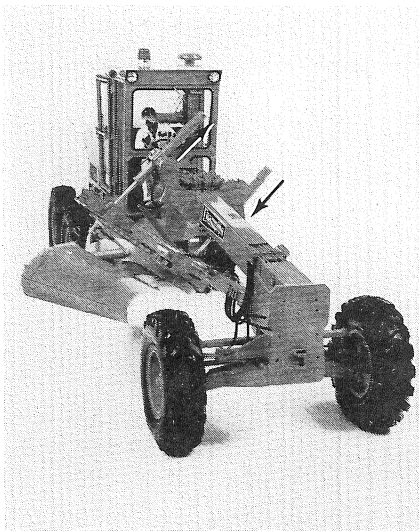

Figure 4
6. Retract both blade lift cylinders until the circle approaches the right hand end of the side shift link. Extend the left hand blade lift cylinder, and, at the same time, retract the right hand blade lift cylinder. This will position the moldboard as shown in Fig. 4.